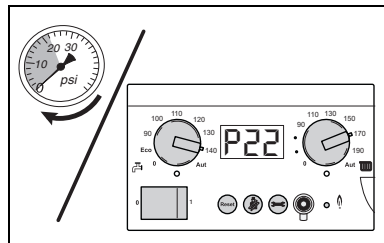

Fig. 6 Reading the pressure gauge
- Fill the heating system to a pressure of appx. 20 psi (1.5 bar). Read the pressure from the pressure gauge on the pump group or on the control panel of the BC10 (fig. 6).